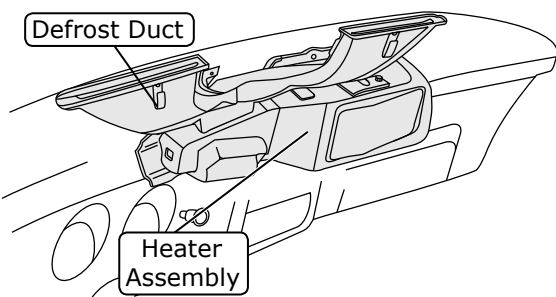

Figure 3
11. Remove (3) screws from the top of the instrument panel and (4) screws from the bottom of the instrument panel ((2) from the left side and (2) from the right side) (retain) (See Photo 8, below).
14. Remove the OEM defrost duct (discard) (See Figure 3, below).
15. Remove the OEM heater assembly (discard) (See Figure 3, below).